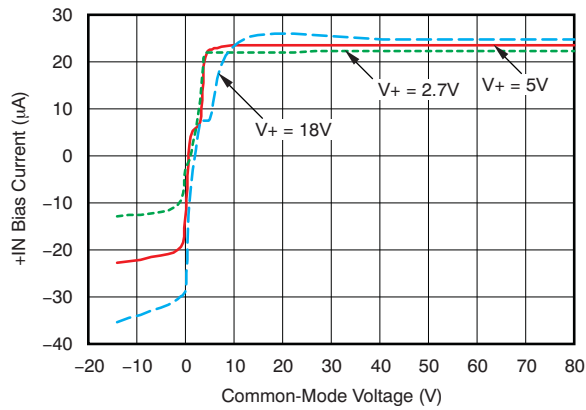

Figure 7. INA283-Q1 +IN BIAS Current vs Common-Mode Voltage
(1) RTI = referred-to-input.
(2) See typical characteristic graph Figure 7.
(3) The average of the voltage on pins REF1 and REF2 must be between V_{GND} and the lesser of $(V_{\text{GND}} + 9\text{ V})$ and V_+ .